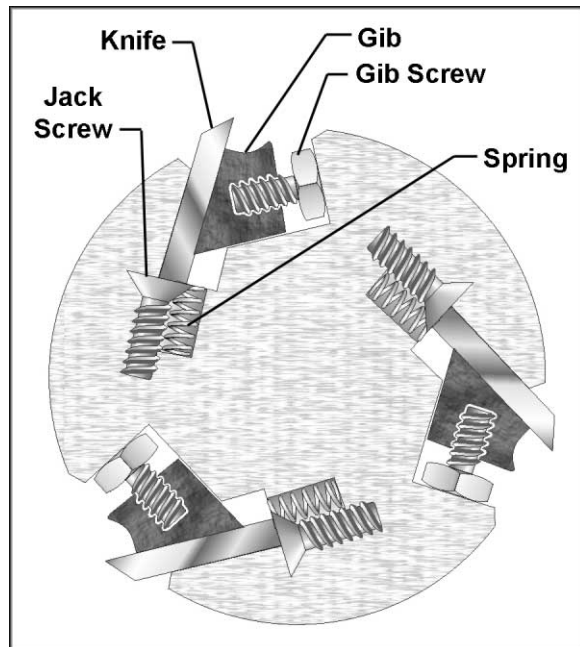

Figure 31
13. Slightly loosen the five gib screws (see Figure 31) with an 8mm wrench. (NOTE: The springs below the knife will cause the knife to rise.)